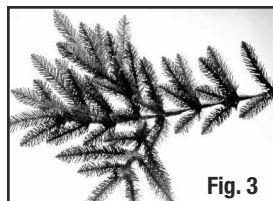

Fig. 3
2. Insert the top tree section into the green plastic opening of the lower tree assembly. This is the "pole cap" which keeps tree top section securely in place (Figure 3).
For larger trees with middle section, carefully insert middle section pole(s) into bottom section pole (Figure 3) as instructed in **SPECIAL NOTE ABOUT GIANT TREES** below. Then insert top section into pole cap. *Optional:* You may want to lubricate middle section pole ends prior to assembly. This will make sections easier to separate when disassembling for storage.
3. Each individual tip should then be spread out separately. Tips should then be bent slightly upward to add a more natural looking appearance. Figure 3 shows a typical tree branch after shaping.